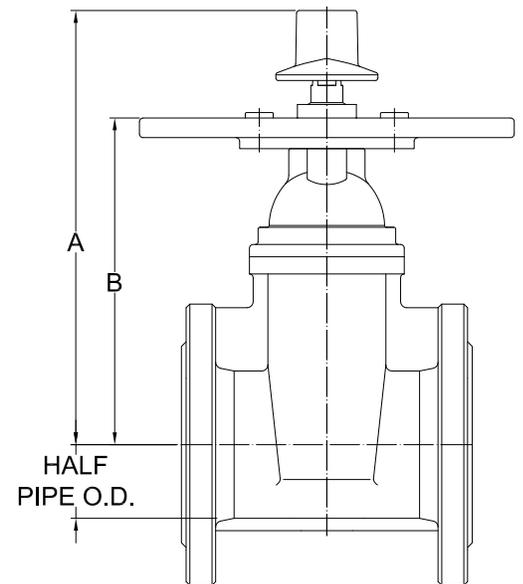

Fig. 1
2.1 NIBCO Indicator Posts are designed to work with 4" thru 16" size NIBCO Resilient Wedge Gate Valves (RWGVs) and 4" thru 12" sizes NIBCO Iron Body Bronze Mounted (IBBM) Gate Valves. See Table 1 and Fig. 1 for valve dimensional data. They will also work with any manufacturers non-rising stem Post Indicator Valve (PIV) that operates from 10 to 50 turns, and a maximum operating torque of 900 ft.-lbs.